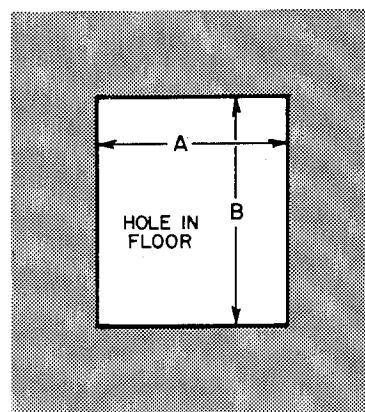

Fig. 4 —Floor Opening for Concrete Slab
- Construct hole in floor per dimensions in Fig. 4 and Table 3.